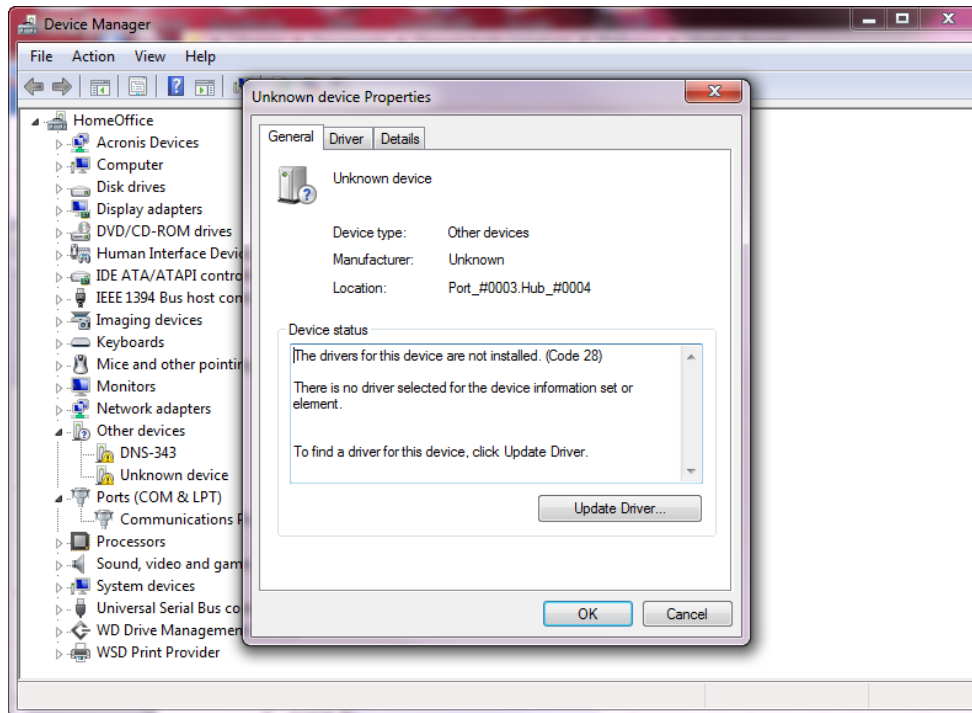

Figure B2: “Unknown device” Properties Page
7. Right Click on the “Unknown device” and Select “Update Driver” from the “Properties” page as illustrated in Figure B2 below